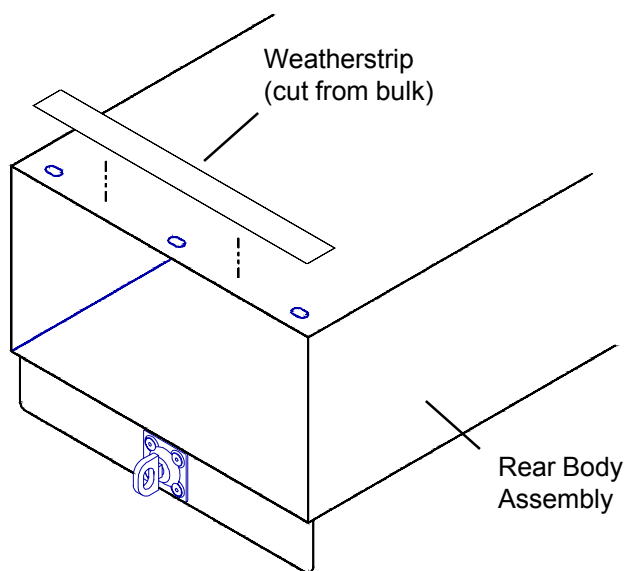

Figure 2. Weatherstripping Rear Body Assembly
1. Cut and adhere Weatherstripping over the Door Stop mounting holes on the Rear Body Assembly (see Figure 2.).